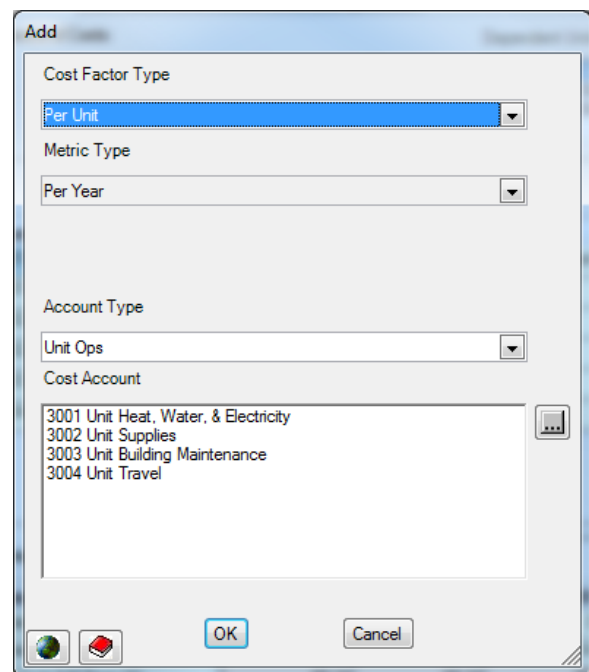

Figure 5-126. Add Window
- Right-click in the grid and choose **Add** from the shortcut menu. The window shown in Figure 5-126 will open.